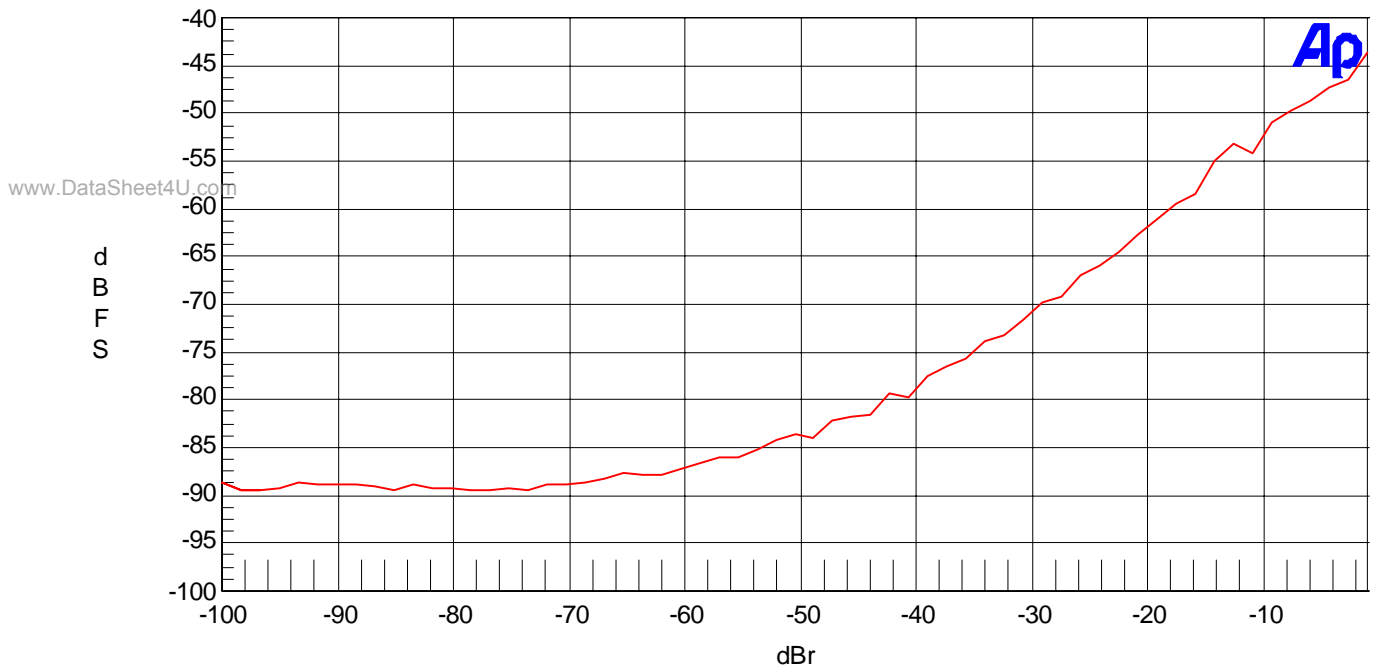

Figure 16. THD+N vs. Input Level (1kHz)
- Figure 16. THD+N vs. Input Level (1kHz)